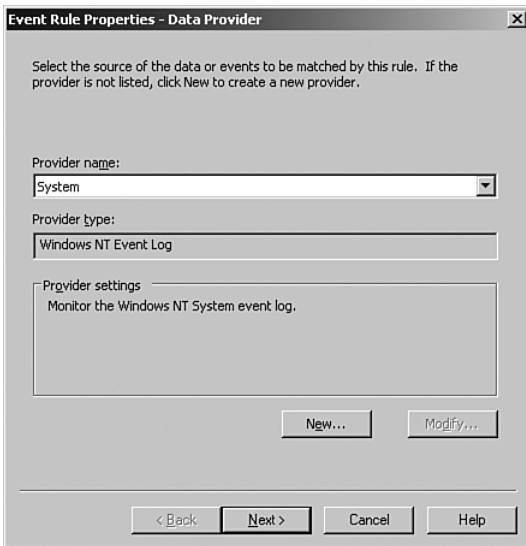

FIGURE 14.4 The Provider screen choosing the System event log within an event rule.
1. The first step of the wizard, shown in Figure 14.4, asks you to specify the data provider, which is the source of the event.